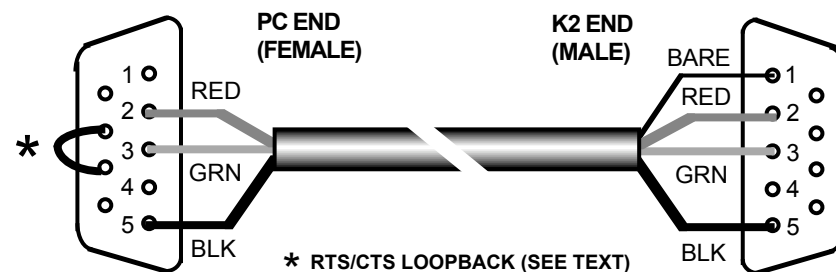

Figure 41
- Locate the DB9F (female) and DB9M (male) connectors. Arrange them as shown in Figure 41 (male connector on the right, solder cups facing up). Make sure the 5-pin rows are facing each other.
- As shown in Figure 41, pins 7 and 8 of the female connector can be wired together (using a discarded component lead) to provide RTS/CTS loop-back2. Some software requires this *hardware handshaking*. We recommend that you make this connection, unless you're sure that your application software does not need it. Some programs use these lines for CW keying, etc.
- Solder the RED, GREEN, and BLACK wires of the PC end of the cable (the end with no shield wire) to the female connector. Refer to Figure 41.